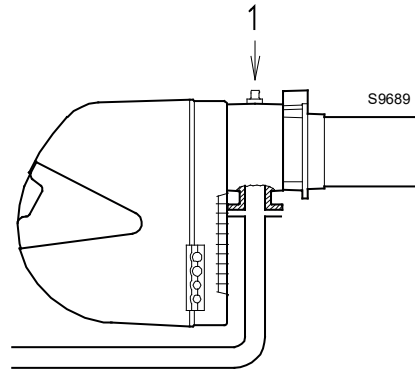

Fig. 17
Gas pressure measured at test point 1)(Fig. 17), with:
Pressure loss at gas butterfly valve 2)(Fig. 17) with maximum opening: 90°.
Train pressure drop 3)(Fig. 17) including: adjustment valve VR, safety valve VS (both fully open), pressure adjuster R, filter F.
- subtract the combustion chamber pressure from the gas pressure measured at test point 1)(Fig. 17).
Gas pressure at test point 1)(Fig. 17) = 8.6 mbar
To calculate the required gas pressure at test point 1)(Fig. 17), set the maximum modulating output required from the burner operation:
- read, on the right (column 1), the pressure at the test point 1)(Fig. 17).
pressure required at test point 1)(Fig. 17).